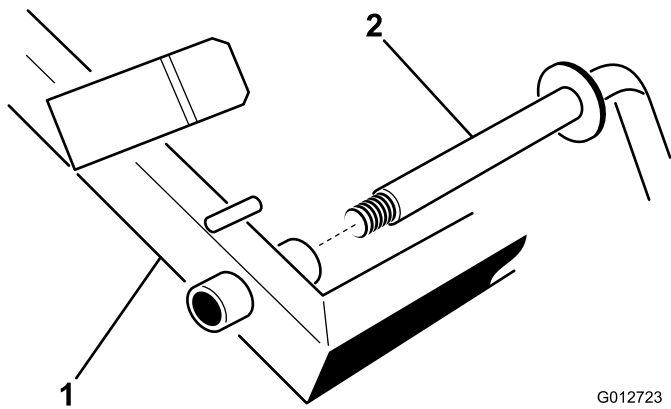

Figure 9
- Insert the lift bail thru the holes in the lift arm and secure with a thrust washer and locknut (3/4 inch) (Figure 9).